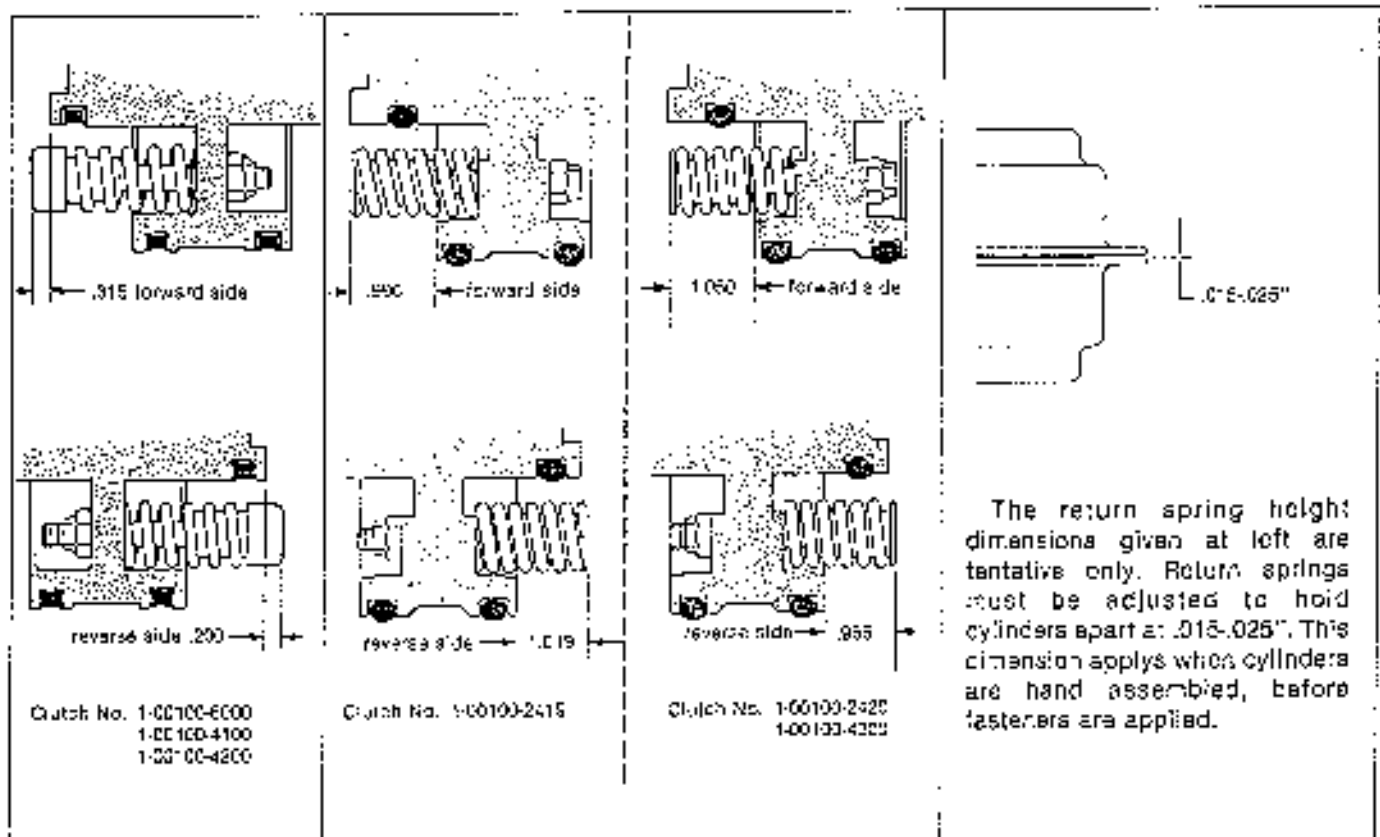

Fig. 24. Clutch Return Spring Height Adjustment
4. Replacement of return springs and retainers (if necessary): Insert return spring retainers into return springs and secure in gear carrier using capscrews. Tighten capscrews tentatively until top of spring retainer protrudes the specified distance from the face of the bevel gear carrier hub as shown in Figure 24.